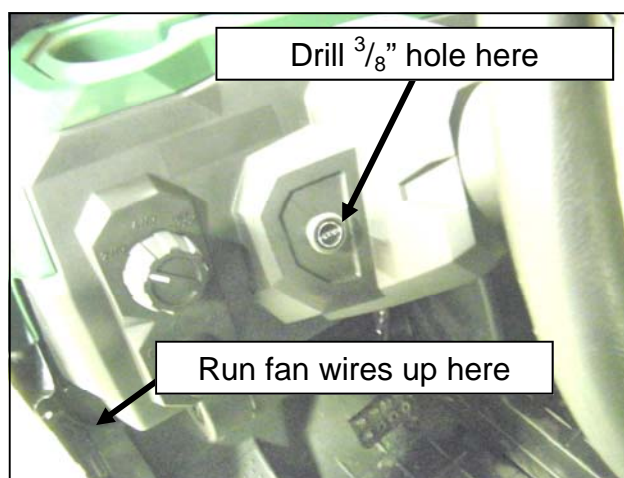

FIGURE 3.1
1. Drill one (1) 3/8" hole in the dashboard of vehicle as shown in Figure 3.1 next to the steering column for heater switch.